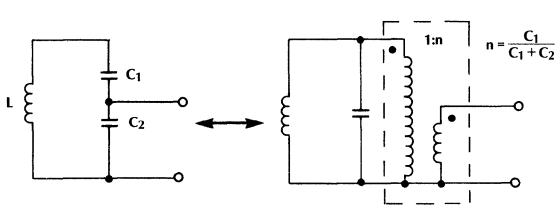

Figure 6.
2. In Figure 6, an RLC circuit with series capacitors can be classified as a "parallel resonant transformer" circuit. Again, this is accurate only when the Q is high (this is easily satisfied with crystal circuits, with Q's in the ten to hundreds of thousands). In this case, the two capacitors act like a transformer with a turns ratio of: